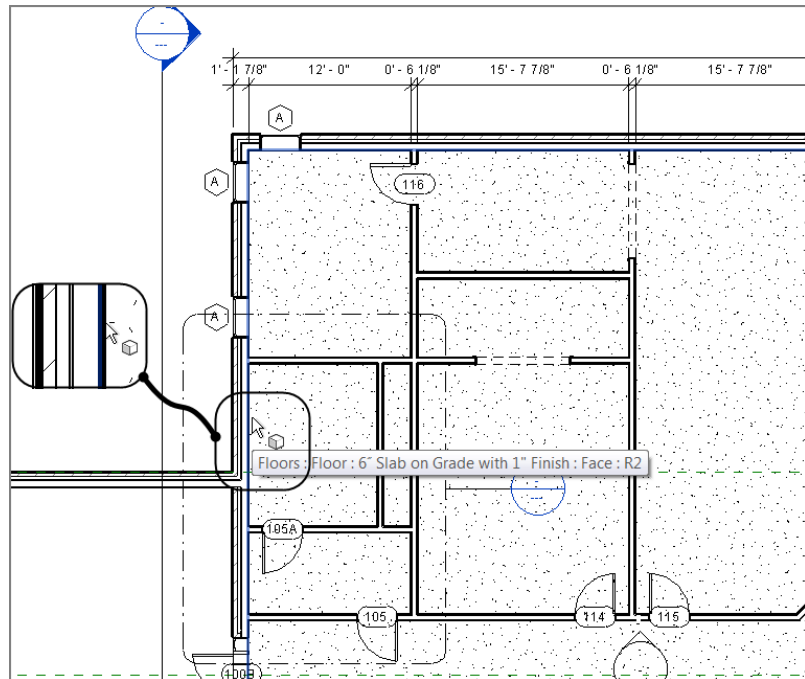

FIGURE 6.41: Finding the edge of the floor
3. Move your cursor into the lavatory area, as shown in Figure 6.41.
4. Notice the little cube at your cursor. Hover the cursor over the wall shown in Figure 6.41. You should get a tooltip telling you that you're directly over the floor. When you see this indication, pick the floor.